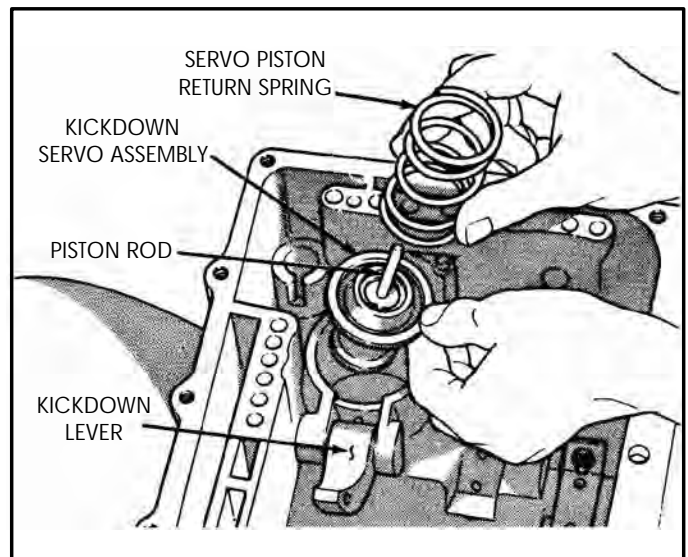

Figure 210
4. Install kickdown servo assembly into transaxle case in the bore shown in Figure 210, and then install return spring on top of piston.